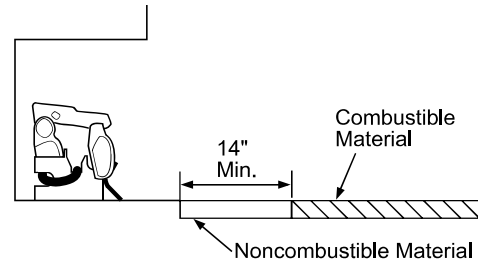

Figure 8 - Minimum Fireplace Clearances If Installed at Floor Level
- A. If installing appliance on the floor level, you must maintain the minimum distance of 14" to combustibles (see *Figure 8*).